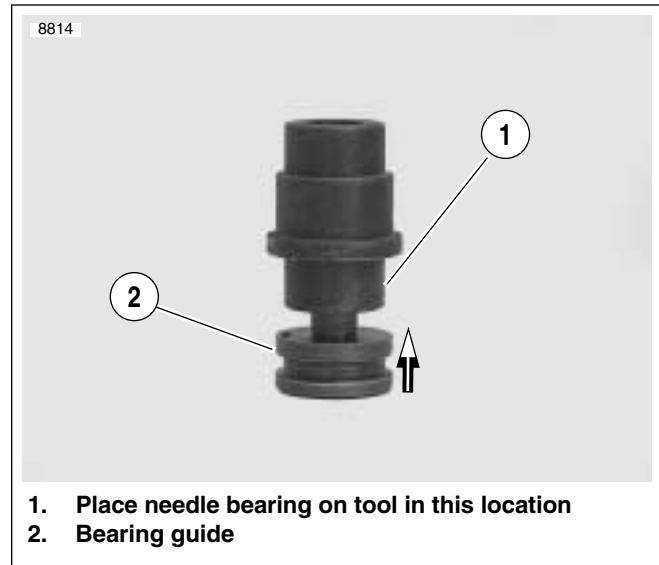

Figure 6-31. Bearing Installer
3. See Figure 6-31. Remove bearing guide from end of **CLUTCH SHELL BEARING REMOVER/INSTALLER** (Part No. B-45926).